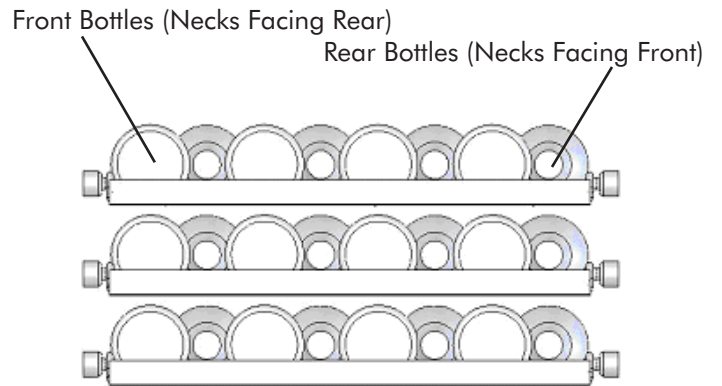

Figure 4
The four (4) pull-out shelves each hold eight (8) bottles. See Figure 4 for typical wine bottle spacing. Tall bottles should not be loaded on the bottom rack because they may prevent the door from closing. The display shelf at the top of the cabinet holds seven bottles. Also, there is a fixed, wooden, bottle cradle in the bottom, step section of the cabinet. Six (6) bottles of wine may be stored there.